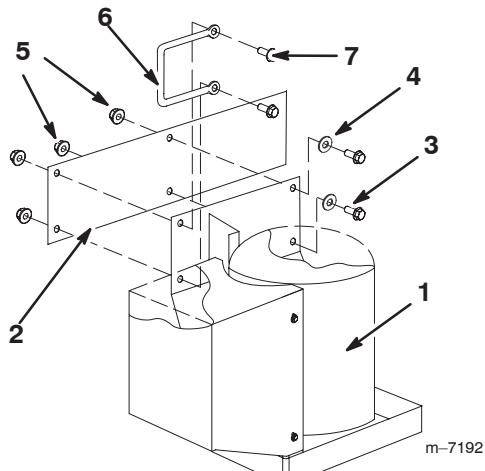

Figure 4
- 11.** Mount the foam marker assembly to the frame using two bolts (3/8 x 1 inch), two washers (3/8 inch), two flange nuts (3/8 inch) included in loose parts; and the left handle and fasteners removed previously (Fig. 4).